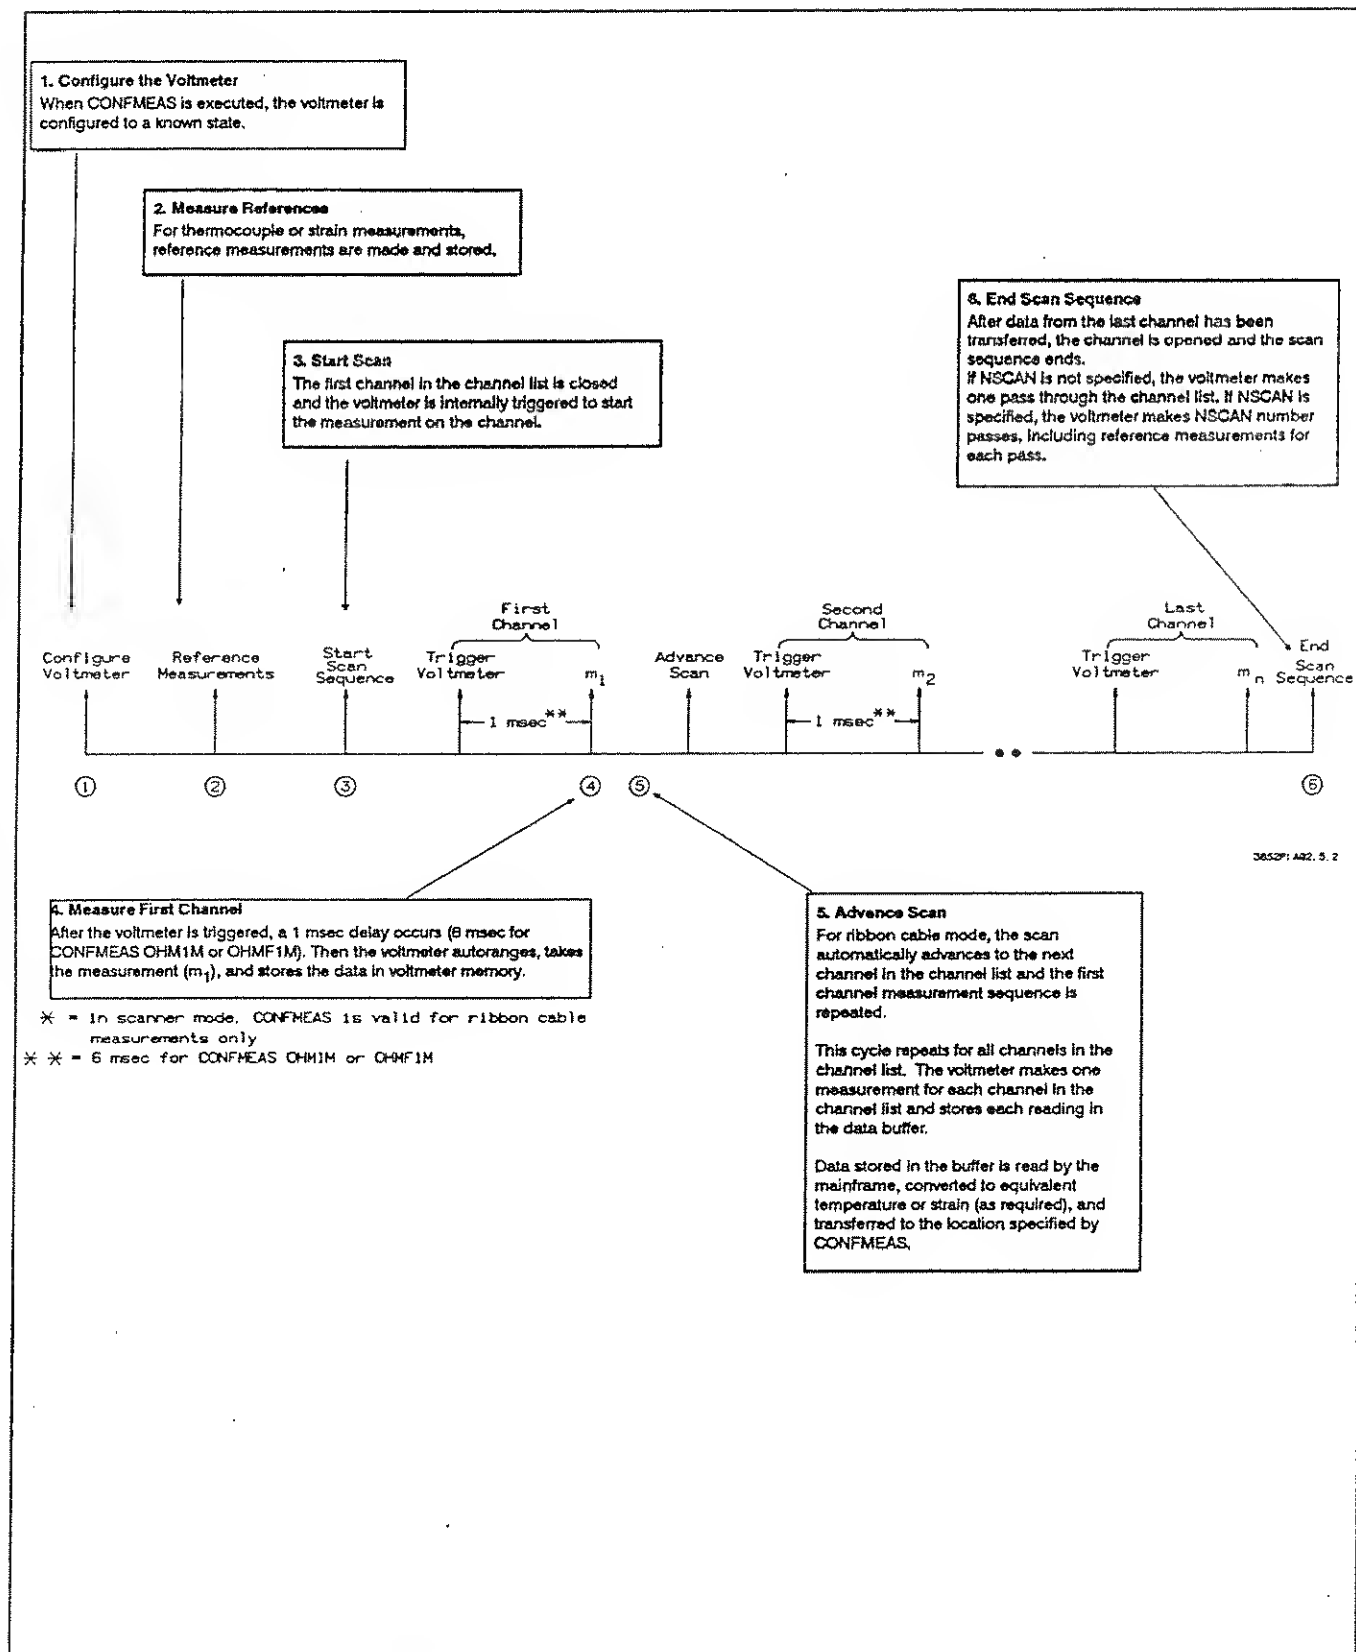

Figure 5-2. CONFMEAS Operation (Scanner Mode)
CONFMEAS Operation Figure 5-2 shows simplified voltmeter operation for CONFMEAS with Scanner Mode ribbon cable measurements. When CONFMEAS is executed the voltmeter is configured (1), any required thermocouple or strain references are measured (2), and the scan sequence is started (3).